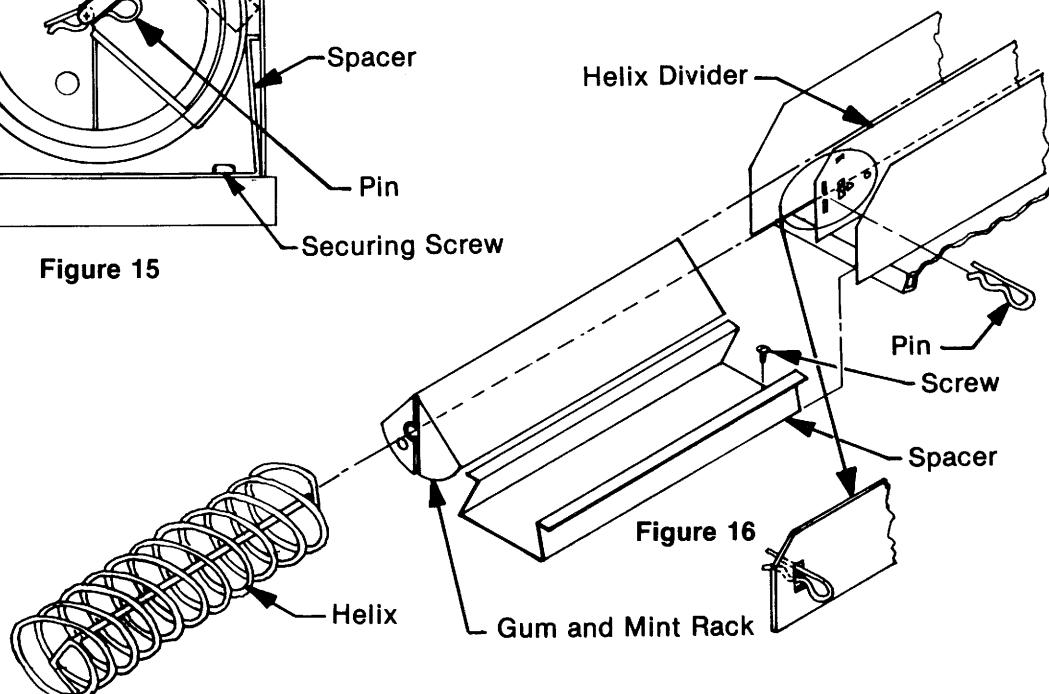

**Figure 14**
6. Stretch or compress front coil on helix and align with front of gum and mint rack as shown by arrow in Figure 14.